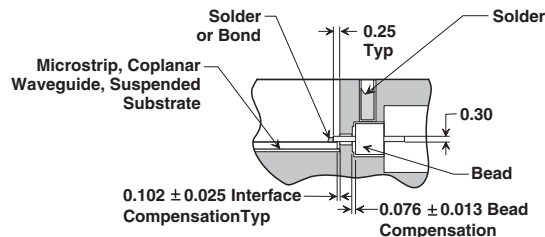

Figure 3. Glass Bead Installation
a. Install microstrip into housing. Refer to Figure 3 for dimensional tolerances around glass bead.